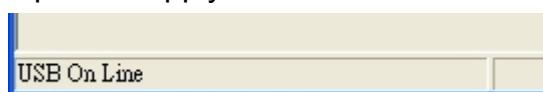

Figure 1- 15
Step 1: Click USB Scan on the interface of HY12P65 ENOB Test Tool. “USB On line” will show up when the connection is successful, as Figure 1- 15. If not, please make sure the hardware connection or power supply is correct.